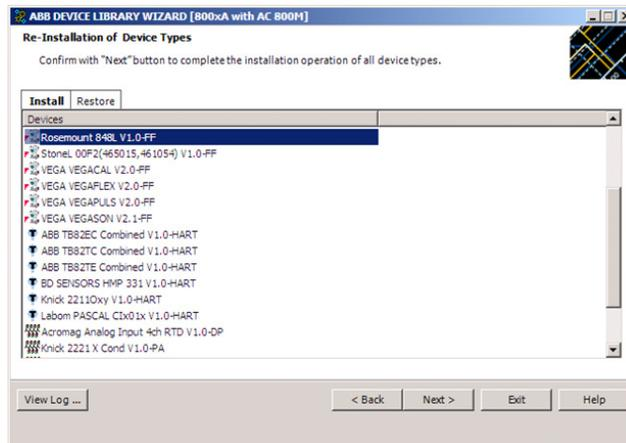

Figure 13. Re-install Device Types Dialog Box
- When the extraction process is completed successfully, the Device Types need to be re-installed on the 800xA System node. Click **Next** to launch the Re-installation of Device Types dialog box shown in Figure 13.